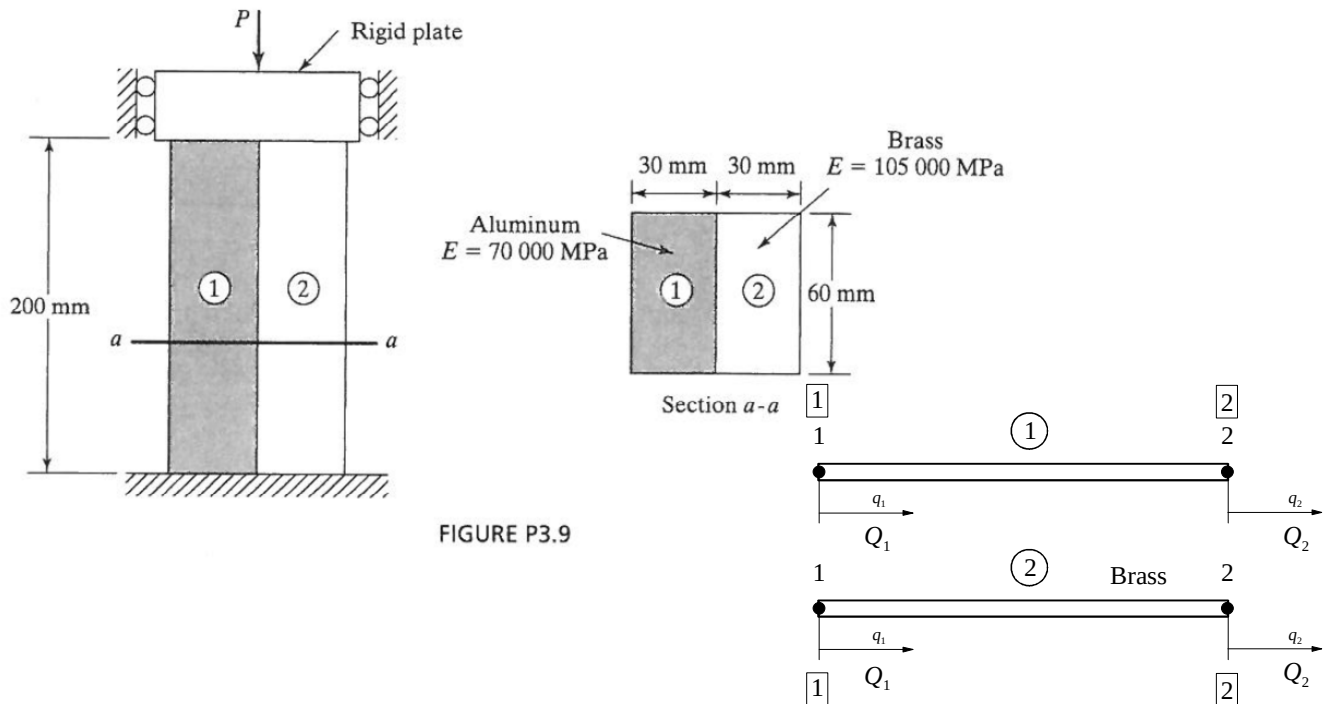

FIGURE P3.9
- 3.9. An axial load $P = 385 \text{ kN}$ is applied to the composite block shown in Fig. P3.9. Determine the stress in each material. (*Hint: You may name the nodes 1-2 for both the elements.*)